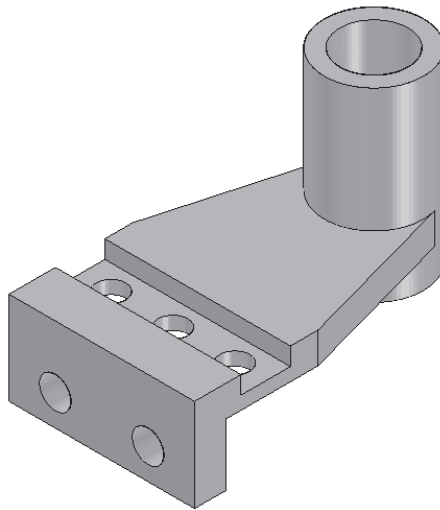

Figure 4-64 Final model for Tutorial 2
- e. Similarly, create the remaining cutouts to complete the model, refer to Figure 4-64.
1. Similarly, create the remaining two cutouts. The model, after creating all features, is shown in Figure 4-64.